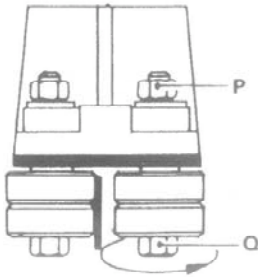

Fig.5.
- Using a 10mm-spanner, slacken the hexagonal nuts P on the two blade guide on the outside of the blade (fig.5).